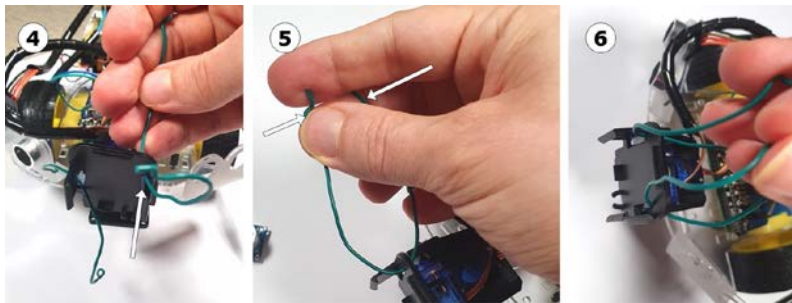

Figure 10.18 – Steps 4 to 6; putting wires in the slots
4. For each side, first push the wire through the indicated slot shown in *Figure 10.18*.